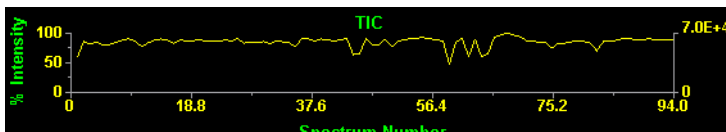

Figure 4-9 Example Nanospray TIC Data
6. Continue repeating step 2 through step 5 to maximize signal intensity and stabilize the TIC (Figure 4-9). Note the following guidelines:
Example TIC data Figure 4-9 represents typical TIC data for nanospray applications.